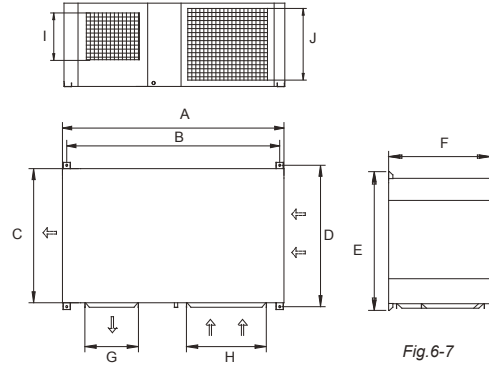
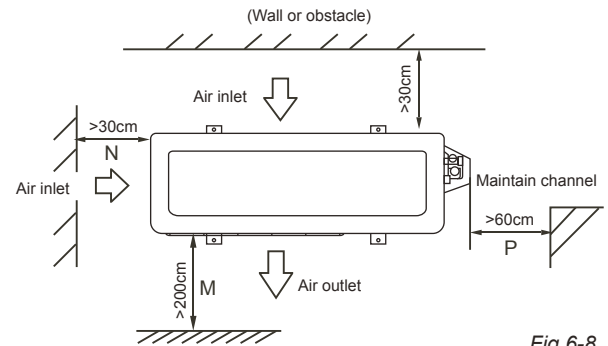
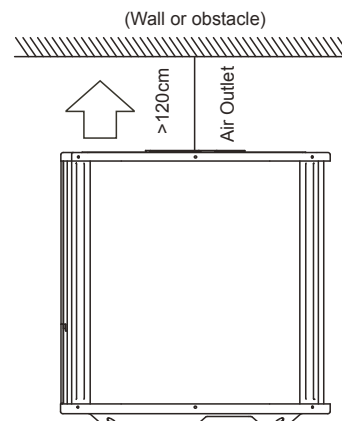

Fig.6-7
Fig.6-8
Fig.6-9
- The minimum distance between the outdoor unit and obstacles described in the installation chart does not mean that the same is applicable to the situation of an airtight room. Leave open two of the three directions. (M,N,P) (Refer to Fig. 6-7, Fig. 6-8, Fig. 6-9).